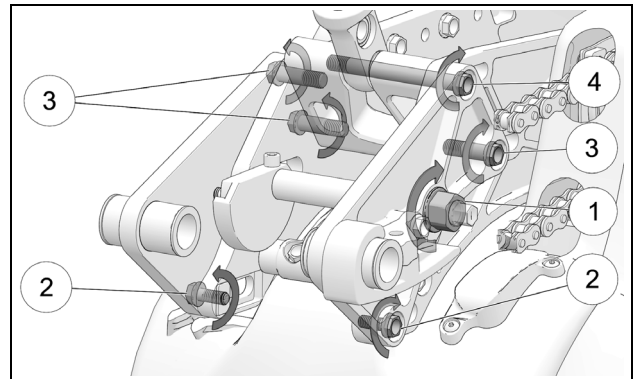

Figure 41
- Tighten in sequence: the eccentric bolt nut (1) to 61 Nm (45 lb-ft); the four M10 bolts (3-4) of the Strut block to 41 Nm (30 lb-ft); and the two M8 bolts (2) at the front of the Bike Mount to 25 Nm (18 lb-ft). See Figure 41.